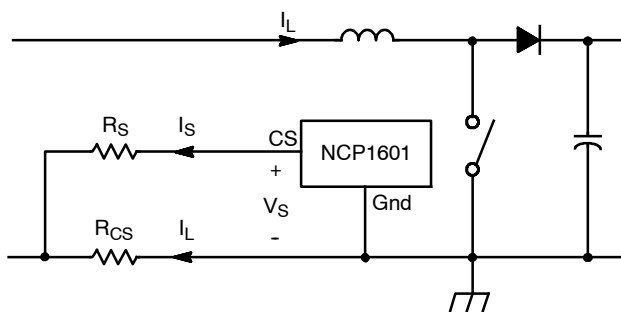

Figure 32. Current Sensing
The device senses the inductor current I_{L} by the current sense scheme in Figure 32. This scheme has the advantages of: (1) the inrush current limitation by the resistor R_{CS} , and (2) the overcurrent protection and zero current detection implemented in the same pin.
Inductor current I_{L} passes through R_{CS} and creates a negative voltage. This voltage is measured by a current I_{S} flowing out of the CS pin (Pin 4). The CS pin has an offset voltage V_{S} . This offset voltage is studied in the setting of zero inductor current $I_{\text{L(ZCD)}}$ and the maximum inductor current $I_{\text{L(OCP)}}$ (i.e., overcurrent protection threshold). A typical variation of offset voltage V_{S} versus sense current I_{S} is shown in Figure 15. Higher the value of the offset voltage at low current region creates lower the zero current threshold for better accuracy. Based on Figure 32, (eq.13) is derived.